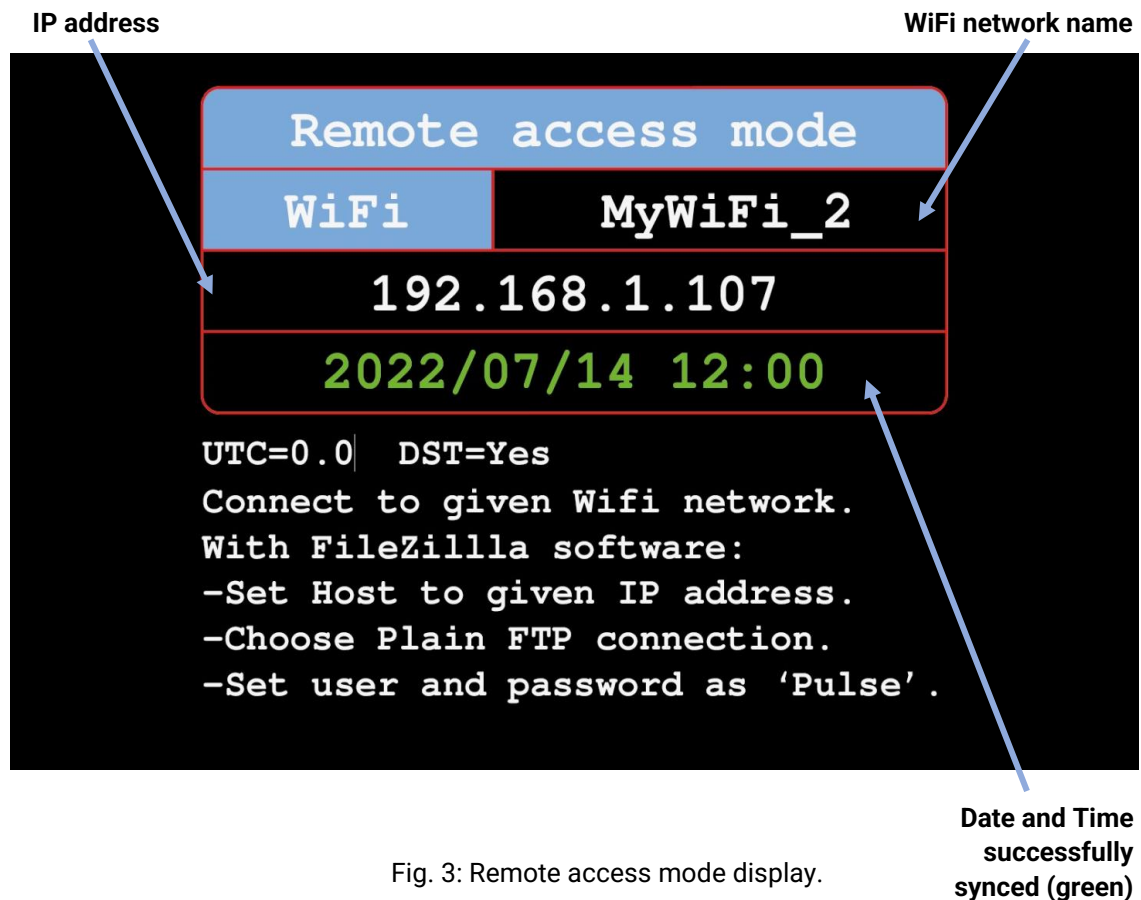

Fig. 3: Remote access mode display.
2. In the remote access mode, you should be presented with a different display in the LCD (**Fig. 3**). Upon entering this mode, PULSE V2 will get the WiFi credentials from the **settings file** and attempt to connect to that network.
- b. In case it succeeds, the external WiFi name and the new IP will be shown in the LCD (**Fig. 3**) and you can now proceed to edit the settings file or to download data (see the following sections below). Importantly, if PULSE V2 gets connected to a WiFi network with internet access, it will attempt to sync its clock using the pool.ntp.org service. If this succeeds, the colour of the time being plotted in the '**REMOTE ACCESS MODE**' will change from white to green (**Fig. 3**), indicating that the time has been updated. The sync process will take approx. 10 sec.
6. Still within the site manager window, in the **Host** field of the **General** tab, you must insert the **IP address** displayed in the PULSE V2 screen (**Fig. 3**).
**NOTE:** both the fields **Display\_duration** and **Rate\_Hz** are shown in the bottom right corner of the LCD during regular data logging (Fig 3), so that you can better interpret what is being plotted at any moment.
4. Press and hold the **Backward Button** for 5 seconds to bring PULSE into the '**REMOTE ACCESS MODE**'. As explained in detail above, PULSE V2 will become connected to an external network or generate its own network. In any case, an IP address will be shown in the display (**Fig. 3**).
5. At this moment, PULSE V2 will host a webpage under the address `http://IP/update`, where the IP is the one shown in the Remote Access Mode display (**Fig. 3**). For example, if the IP shown in the display is 10.10.10.10, the new firmware must be uploaded at the address: '`http://10.10.10.1/update`'. If the IP is 192.168.1.107, the firmware upload address will be: '`http://192.168.1.107/update`'.